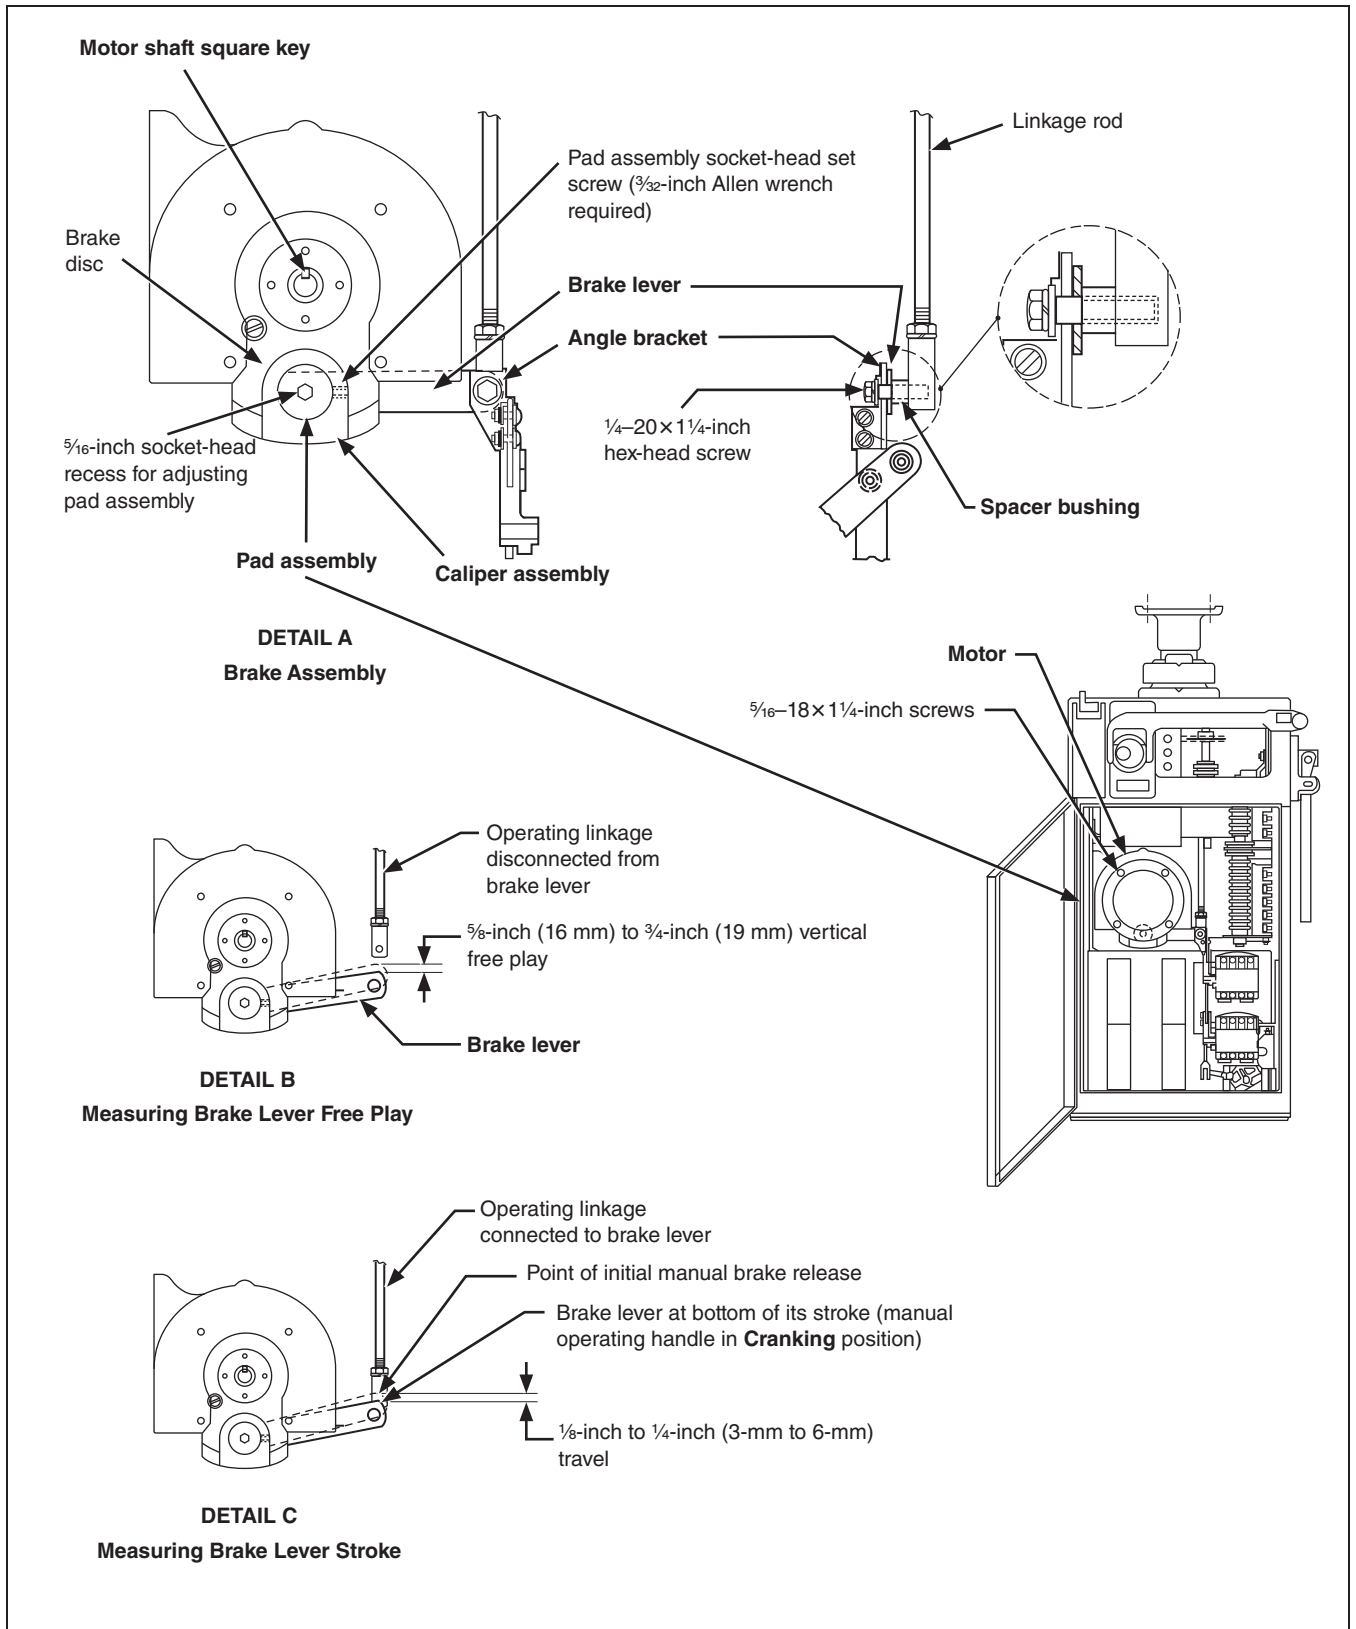

Figure 6. Brake inspection procedure.
Check brake operation and readjust if necessary. The procedure for doing this is as follows. See Figure 6 on page 13.
- STEP 3.** Disconnect the linkage rod by removing the  $\frac{1}{4}$ -20  $\times$   $1\frac{1}{4}$ -inch hex-head screw, lockwasher, flat washer, and spacer-bushing from the end of the brake lever, as shown in Detail A in Figure 6 on page 13. Be careful not to lose these parts.
- STEP 4.** Raise the brake lever and measure the vertical free play, as shown in Detail B in Figure 6 on page 13. This dimension should be  $\frac{5}{8}$ -inch (16 mm) to  $\frac{3}{4}$ -inch (19 mm). Should the measurement be outside this range, brake-wear compensation is required; proceed to Step 5.
- STEP 6.** Using a  $\frac{3}{32}$ -inch Allen wrench, loosen the pad assembly socket-head set screw on the side of the caliper assembly approximately one-half turn. See Detail A in Figure 6 on page 13.
- STEP 7.** Then, using a  $\frac{5}{16}$ -inch Allen wrench, rotate the pad assembly clockwise until the free play at the end of the brake lever is  $\frac{5}{18}$ -inch (16 mm) to  $\frac{3}{4}$ -inch (19 mm), as shown in Detail B in Figure 6 on page 13. Now, tighten the  $\frac{3}{32}$ -inch pad assembly socket-head set screw.
- STEP 9.** Insert the square key in the keyway, as shown in See Detail A in Figure 6 on page 13. Slip the tubular spacer (if furnished) over the motor shaft and reinstall the motor. Position the motor so the two weep holes on the side of the housing face downward. Replace the four  $\frac{5}{16}$ -18  $\times$   $1\frac{1}{2}$ -inch screws used to attach the motor and tighten them securely.
- (b) Measure the distance the end of the brake lever travels from the point of initial brake release to the bottom of its stroke (which occurs when the handle locks into the **Cranking** position). This distance should be  $\frac{1}{8}$ -inch (3 mm) to  $\frac{1}{4}$ -inch (6 mm). See Detail C in Figure 6 on page 13. Should the measurement be outside this range, refer to the nearest S&C Sales Office.